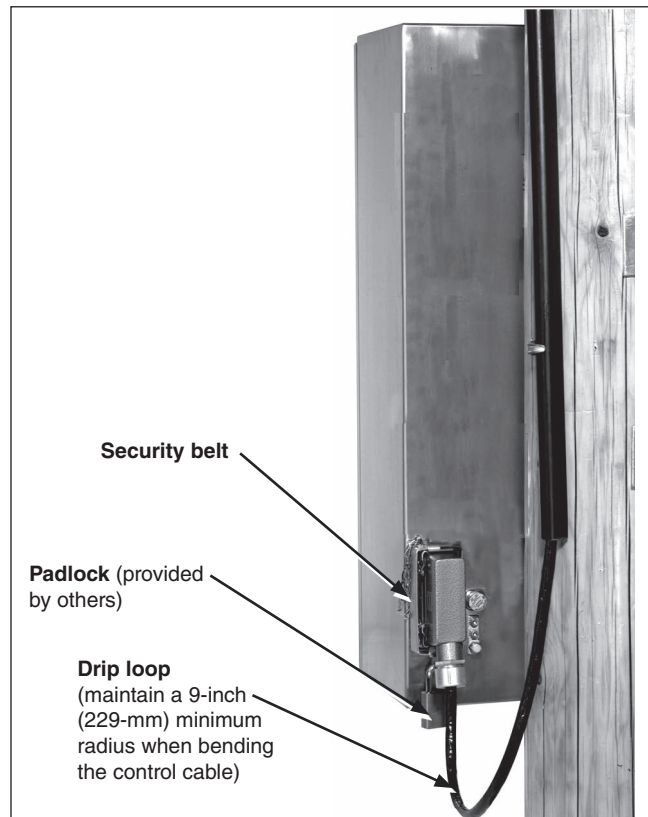

Figure 10. Connecting the control cable to the utility pole.
**STEP 8.** Form a drip loop in the control cable where it attaches to the control unit. Maintain a 9-inch (229-mm) minimum radius when bending the control cable at the drip loop and at the switch connection. Adjust the control cable along the length of the utility pole and form a coil with any excess cable (maintaining a 9-inch (229-mm) minimum radius). Secure the control cable to the utility pole using suitable guards or clamps. See Figure 10.